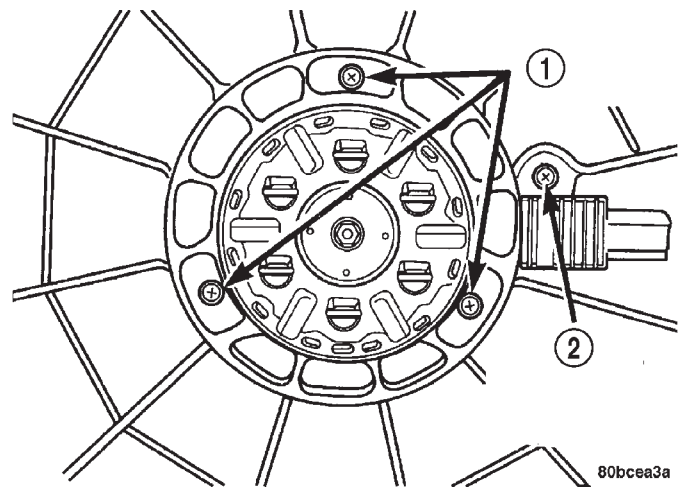

Fig. 39 Fan Motor—Removal and Installation
- (1) Remove cooling fan module. Refer to procedure in this section.
- (2) Remove fan from motor shaft.
- (3) Remove screw attaching the in-rush current suppressor (Fig. 39).
- (4) Remove screws attaching motor to shroud (Fig. 39).
- (5) Remove fan motor.
- (1) Install fan motor on shroud and tighten screws to 3.8 N·m (34 in. lbs.) (Fig. 39).
- (2) Install screw attaching the in-rush current suppressor and tighten to 2.6 N·m (23 in. lbs.) (Fig. 39).
- (3) Install fan on motor shaft.
- (4) Install cooling fan module. Refer to procedure in this section.